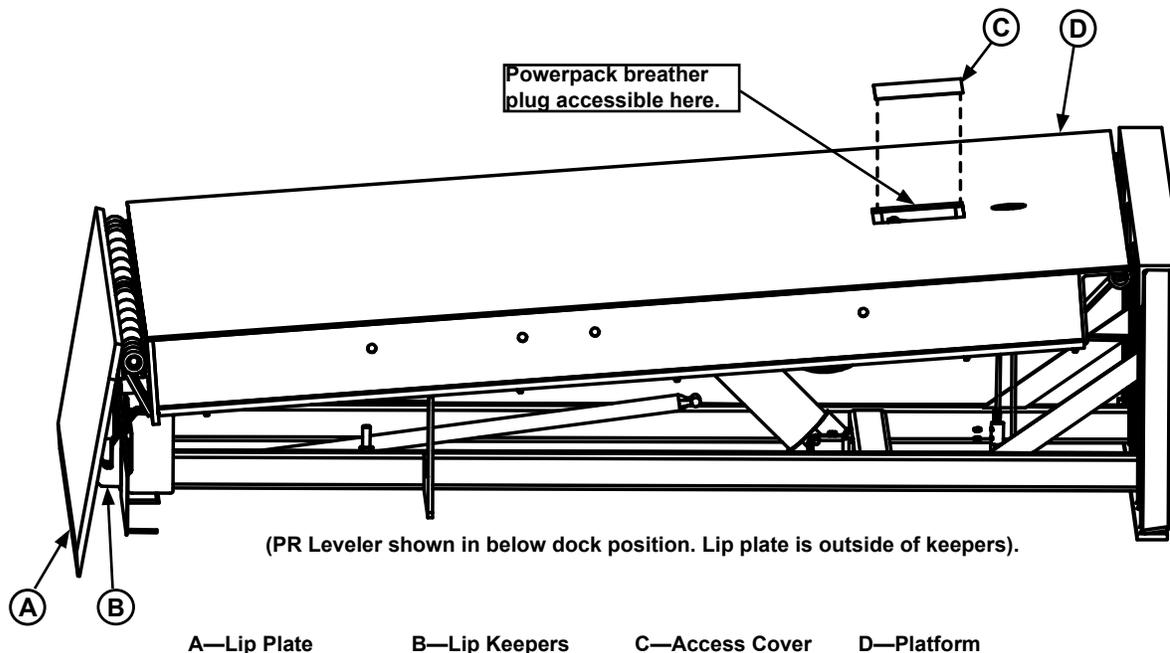
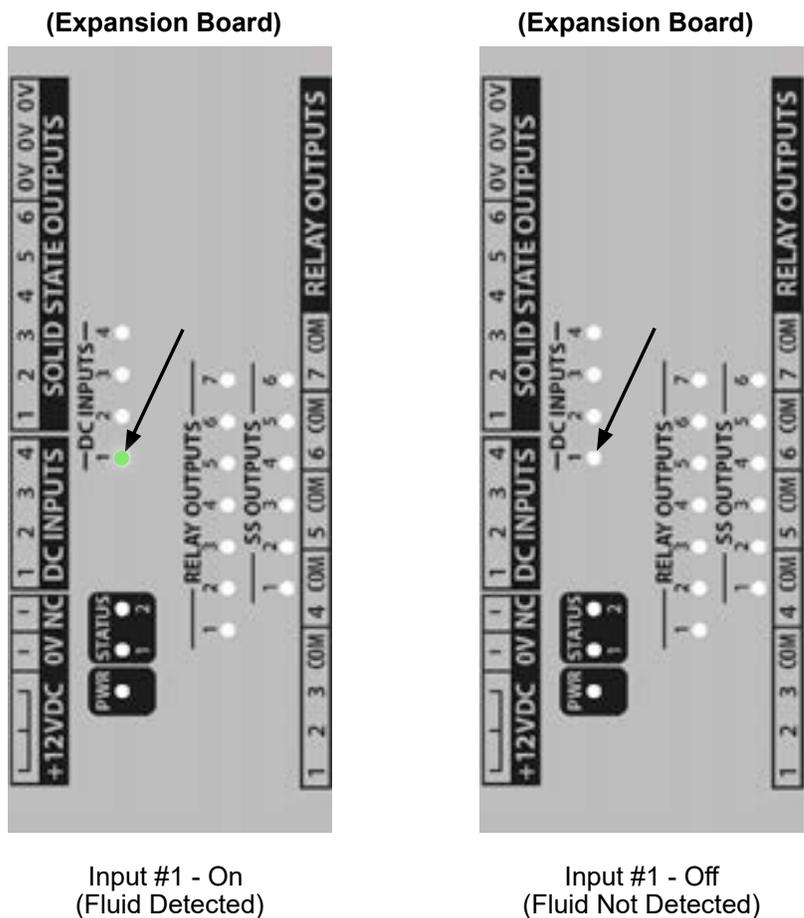

Figure 33
Figure 34
- Position the dock leveler in the below dock/ end loading position. See **Figure 33**.
- Remove the access cover (C) from the top of the leveler platform (D). This will provide access to the reservoir fill port.
- With the correct fluid level in the reservoir, the sensor LED should be illuminated. DC Input #1 should be illuminated on the expansion board. See **Figure 34**.
- If the fluid level is low, DC Input #1 should *not* be illuminated. See **Figure 34**. The message display (A) will show: